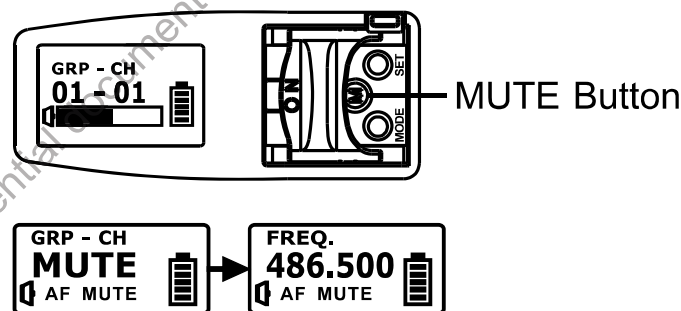

Fig. 17
- (1) ROM-ER → Channel wasn't programmed or internal data error.
- (2) ERROR1 → RF frequency targeting circuitry is failed.
- (3) NO----03 → The set frequency exceeds the upper band. The transmitter frequency will not be changed but it can be operated as long as the power switch is turned on again.
- (4) NO----04 → The set frequency exceeds the lower band. The transmitter frequency will not be changed but it can be operated as long as the power switch is turned on again.
(H) MUTE Button. Fig. 17:
- (1) Press MUTE button to enter MUTE status, the Audio Signal Level Bar 19 shows AF MUTE and blinks, and all operations and the ACT function are still workable.
- (2) Press MUTE button again to unmute. AF MUTE will be disabled automatically when power off.
- (3) MUTE button is only workable under MAN (Manual Setting) mode.